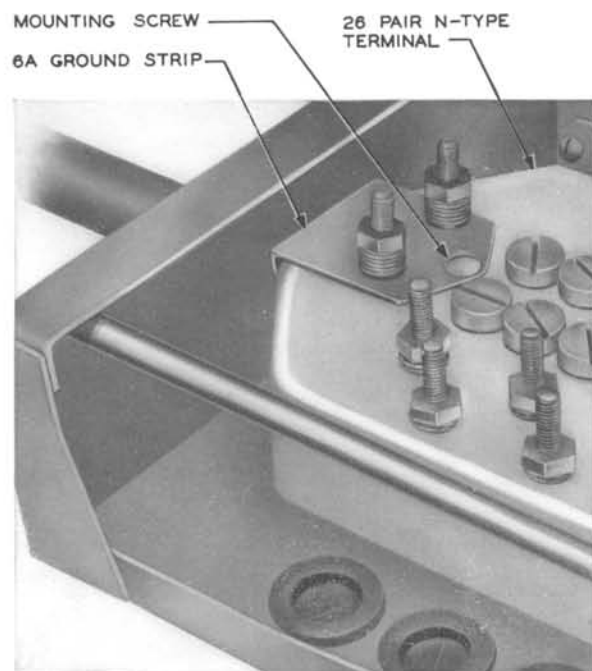

FIG. 13—METHOD OF INSTALLING 6A GROUND STRIP
**5.08** The 6A ground strip is intended for use with the 26-pair, NC-, NE-, NF-, and NH-type cable terminals. The 6A ground strip is equipped with two binding posts, each having one nut and five washers. The mounting screw for the 6A ground strip is a part of the 26-pair, N-type cable terminals (see Fig. 13).